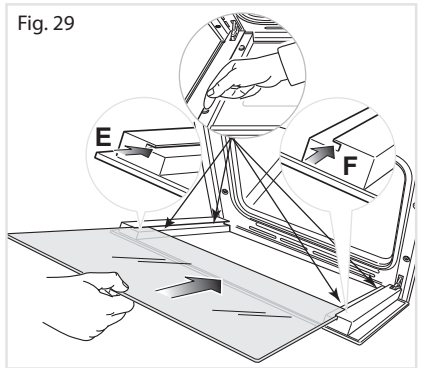
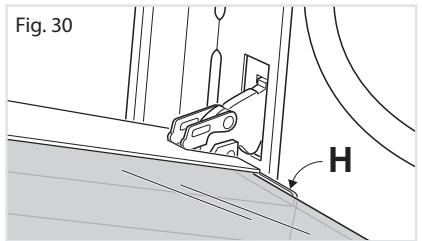

Fig. 29
Fig. 30
**IMPORTANT:** It is advisable, while refitting the glass, to keep pressed in position the four rubber pads **D**, by a finger, to avoid breakage or slippage of the rubber pads themselves (Fig. 29).
- Insert the pane in the left **E** and right **F** slide guides (fig. 29), and gently slide it to the retainers **H** (Fig. 30).